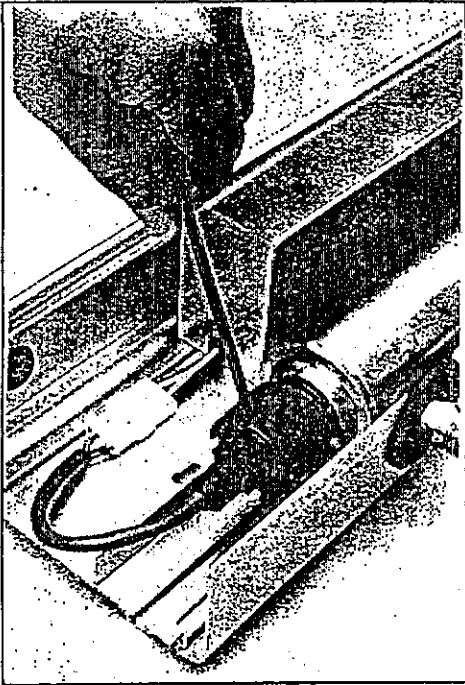

Figure 2: Apply Pressure to Pry Out the Lamp Harness from the Sleeve Bolt.
Step 3: Remove the lamp harness (illustration in Figure 2). Insert the small screwdriver into one of the slots at the side of the Sleeve Bolt and apply a gentle pressure to pry open the Snap-in Cover of the Lamp Plug. Do not pull on the cord or plug to remove the Lamp Harness as it will shorten the useful life.